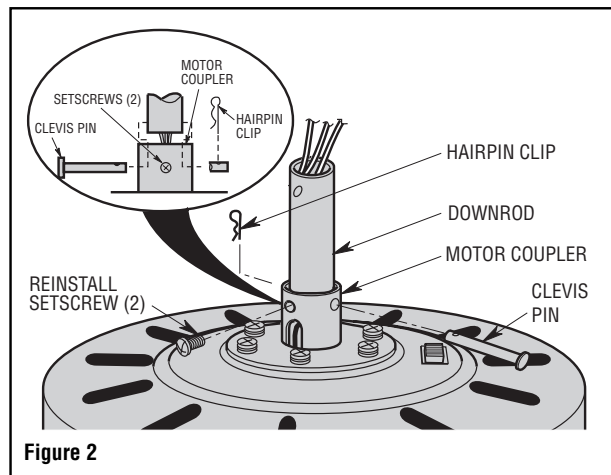

Figure 2
2. Loosen the two setscrews in the motor coupler to prepare for the installation of the downrod (Figure 2).
3. Separate, untwist and unkink the three 80" motor leads. Route the motor lead wires through the downrod. Align the clevis pin holes in the downrod with the holes in the motor coupler. Install the clevis pin and secure with the hairpin clip (Figure 2). The clevis pin must go through the holes in the motor coupler and the holes in the downrod. Be sure to push the straight leg of the hairpin clip through the hole near the end of the clevis pin until the curved portion of the hairpin clip snaps around the clevis pin. The hairpin clip must be properly installed to prevent the clevis pin from working loose. Pull on the downrod to make sure the clevis pin is properly installed.
4. While pulling up on the downrod, tighten the two setscrews in the motor coupler (Figure 2).
It is critical that the clevis pin in the motor coupler is properly installed and the setscrews securely tightened. Failure to verify that the pin and setscrews are properly installed (as shown in Figure 2) could result in the fan falling.